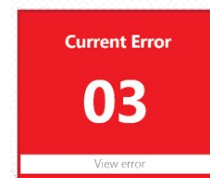

Fig 80. Error Code 03
- When the tankless water heater has an error, the “Current Error” box turns red and displays the error code (Fig 80). Press the red box to view additional information about the error. The “Error” window appears (Fig 81).